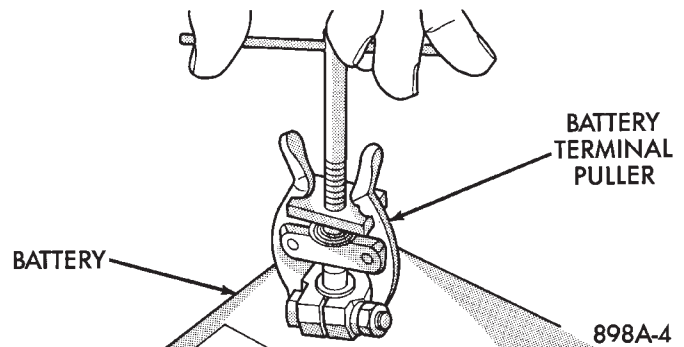

Fig. 2 Remove Battery Cables
(1) Make sure ignition switch is in OFF position and all accessories are OFF.
(2) Disconnect and remove the battery terminals from the battery posts. Remove negative battery cable first (Fig. 2).